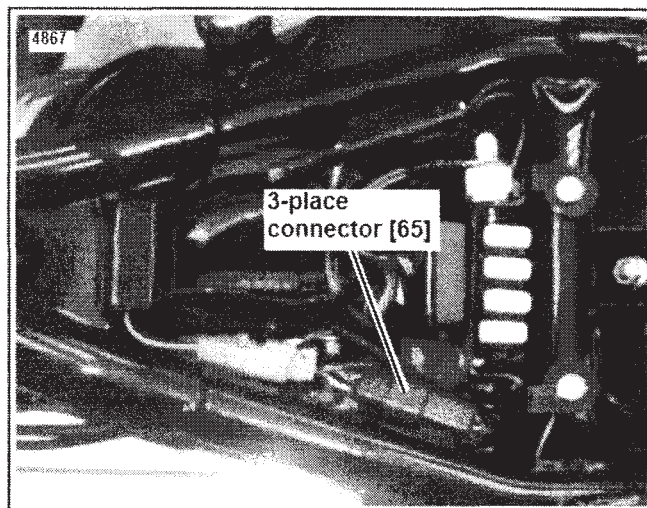

Figure 1. Speedometer Sensor Connection [65] - XLH
3. See Figures 1 and 2. The 3-place speedometer sensor connector [65] is located on the frame beneath the seat Remove connector from t-stud and disconnect. Detach sensor harness from left frame tube
5. See Figure 1. Route speedometer sensor cable into position under fuel tank and seat. Connect 3-place connector [65] under the seat